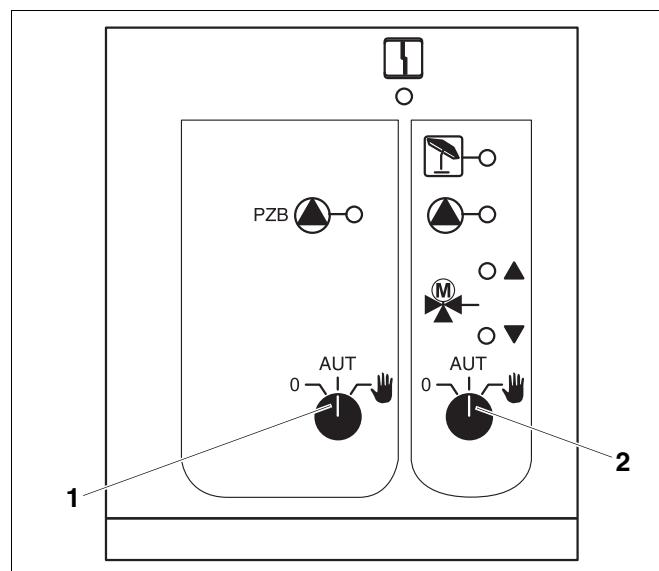

Fig. 26 ZM433 central module
- Set feed circuit (→ Fig. 26, [1]) via selector to manual
- Set heating circuit (→ Fig. 26, [2]) at selector to manual